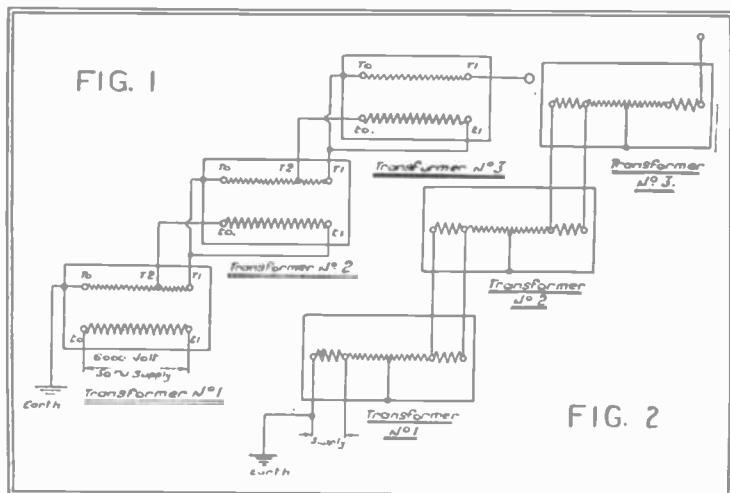

FIG. 2
An alternative arrangement using the cascade connection even more economically is shown in Fig. 2. Specially wound transformers are employed, having the mid-point of the H.T. winding connected to the tank and each end provided with tappings suitably insulated. For a million volt set of three transformers each unit would be wound for 333,000 volts, but the maximum pressure to be insulated for would only be 167,000 volts. All three transformers will now require insulating from ground. This, however, presents no difficulties even for the largest transformers.
**Fig. 1.** Diagram showing the cascade connection. All transformers are mounted on supports of porcelain or bakelite. The lead  $T_1$  of transformer No. 3 has a potential of 1,000,-000 volts to ground. Fig. 2 shows an alternative arrangement.